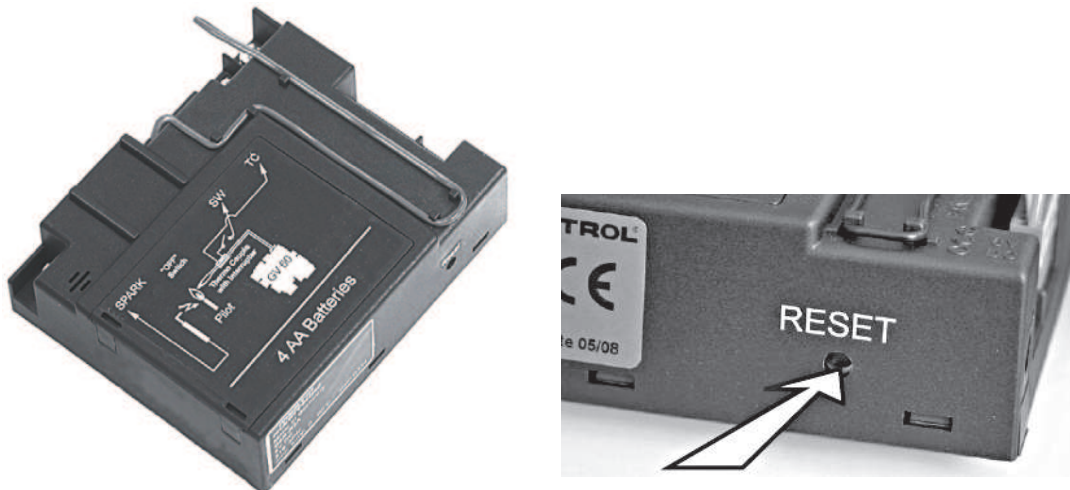

Figure 3: Receiver “RESET” button
- Press the **“RESET”** button on the receiver, and keep this pressed until 2 beeps are heard. See figure 3.